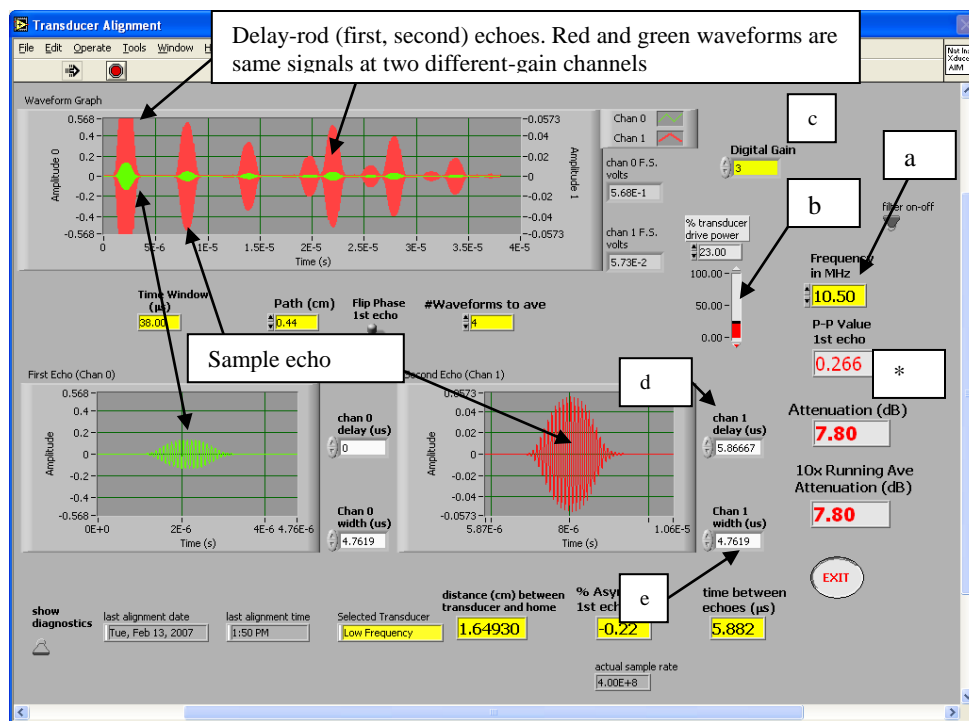

Fig. 1. LF transducer coarse alignment settings at 10 MHz.
- G. Turn the two fine-alignment screws (see stage photo in this manual) in order to minimize the “Attenuation (dB)” value as shown on figure 1.